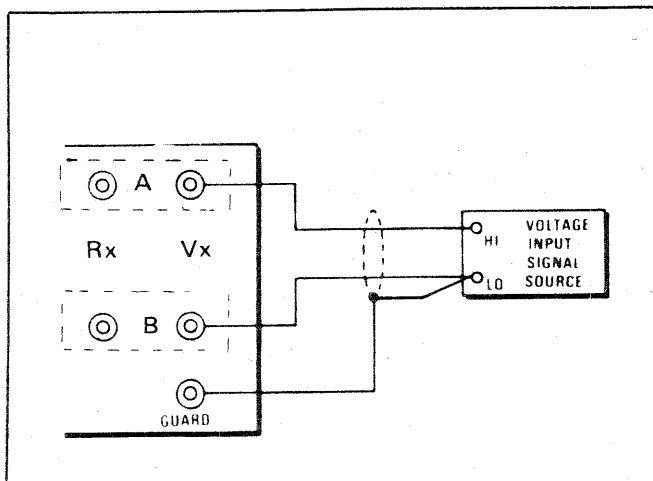

Fig. 2-4. Voltage Measurement connections
a. Connect signal inputs as shown in Figure 2-4. Observe precautions concerning maximum input and common mode voltages. See specifications, para. 1.3.
a. Connect input signal as shown in Figure 2-4. Observe precautions of maximum input voltage. See specifications, para. 1.3.